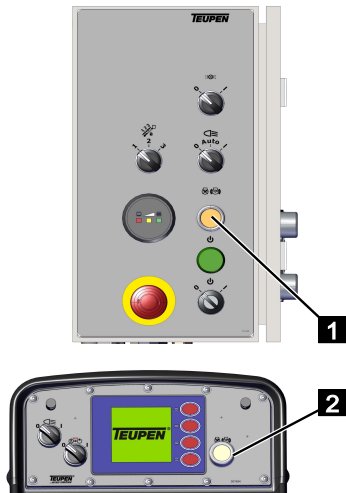

Fig. 73
- To start, press and hold the illuminated button (Fig.73/1) on the control box or (Fig.73/2) on the control panel for at least 2 seconds.
- To switch off the combustion engine, press and hold the illuminated button (Fig.73/1) on the control box or (Fig.73/2) on the control panel until the combustion engine stops.